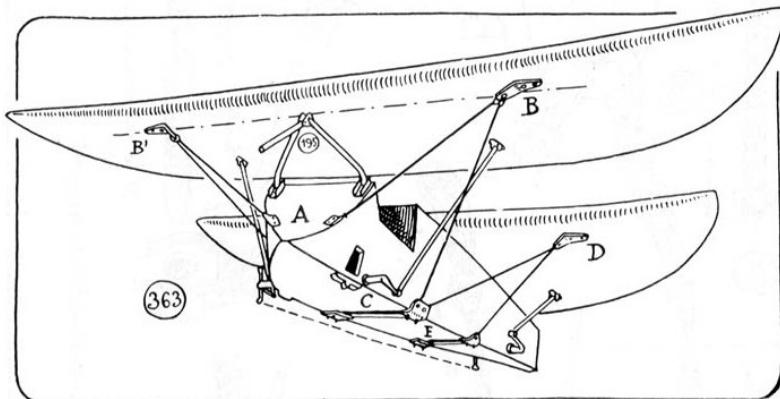
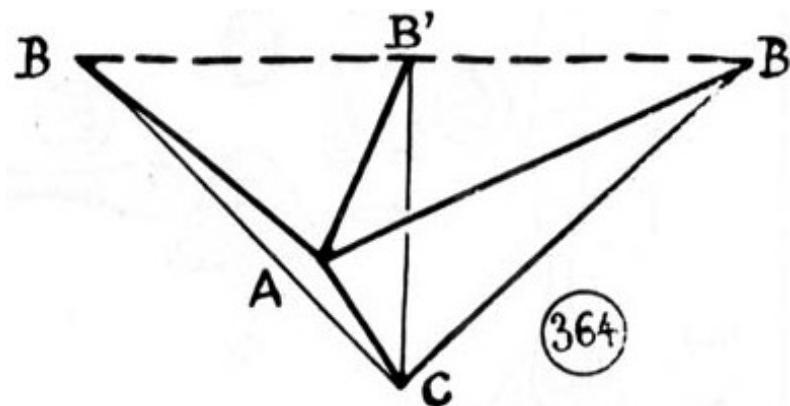

Figure 6.1: Arrangement of bracing wires
Figure 6.2: Tetrahedral bracing
(363) in figure 6.1 shows the plan and layout of the bracing wires, which are triangulated tetrahedrally (fig. 6.2, (364)), so as to be dimensionally stable in tension.